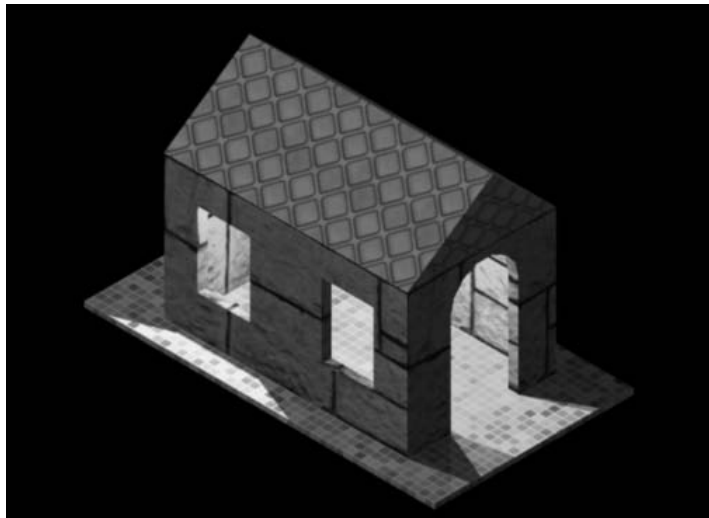

Figure 30-31 Rendered model of a house
7. Choose the **Render** button in the **Render** panel under the **Render** tab of the **Ribbon** to invoke the **Render** window. The rendering process will start and display the rendered image in the **Render** window. The rendered image should be similar to the one shown in Figure 30-31.